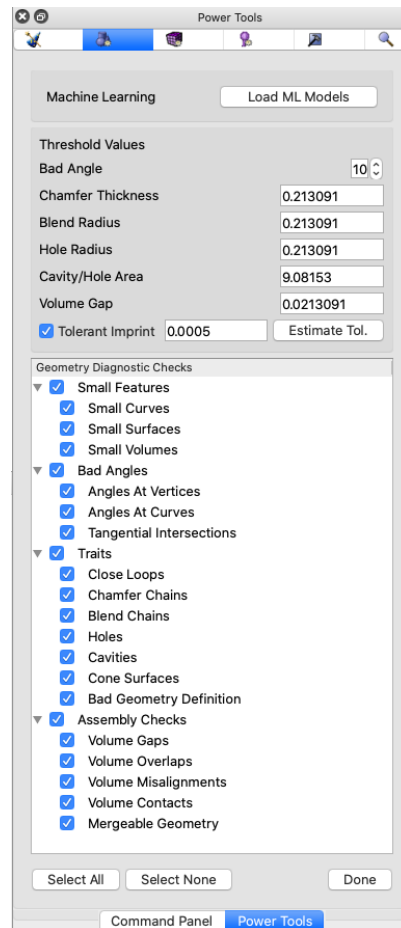

Figure 2. Geometry power tools options panel
3. **Select diagnostics to perform:** Selecting the **Options...** button will display a list of available diagnostics grouped by category, as shown in Figure 2. By default all diagnostics are selected. Some diagnostics may not apply to specific geometry, or may only need to be run once per geometry. To avoid long analysis times, select only diagnostics that are relevant for your current problem scope. Clicking on the box by each test will select or deselect it. Categories of diagnostics may also be selected or deselected in a similar manner. All diagnostics may be selected or deselected using the **Select All** and **Select None** buttons at the bottom of the panel. Threshold values used for some of the diagnostics can also be entered, including bad angle, chamfer thickness, blend or hole radius, cavity area and volume gap thresholds. Details on each of the diagnostics are described below. Select the **Done** button to return to the main Geometry power tool panel.
The geometry power tools, contain various diagnostic tests that can be run on geometry to diagnose potential problems for mesh generation and defeaturing. To display a list of tests, click on the **Options...** button. The panel shown in Figure 2. will appear. Select or deselect the desired options from the window before performing an analysis. To avoid long analysis times, select only tests that are relevant for your current problem scope. Cubit will also save the current test selections between runs. The geometry analysis tests are summarized below: